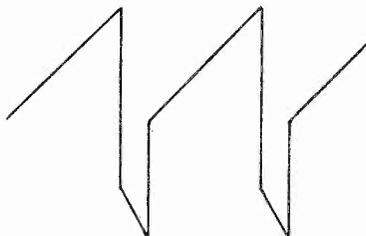

Fig. 6 The voltage wave form required to produce a sawtooth current in a deflection coil.
**Fig. 6 Distortion of the wave form which results from an improperly balanced phase inverter circuit. The positive peak is of higher amplitude than the negative peak. This condition results in harmonic distortion.**
Second, there is the matter of balance. Aging of resistors can, of course, seriously affect the balance of the two voltages on the grids of the output stages. Even if all other things in the circuit are working perfectly, this factor will produce distortion in the output. Fig. 6 shows the type of wave form which results from unbalance of the phase inverter circuit. One peak of the wave (A) has a higher value of voltage than the other peak (B). Thus harmonics, or voltages having twice, three times, etc., the fundamental frequency are produced in the output. The result is speech or music which has that "marbles in the mouth" or fuzzy or scratchy sound which is so often the cause of dismay on the part of the customer.
It was previously shown that the voltage waveform in Fig. 6 was necessary to generate a saw-tooth current in the vertical deflecting coil. In the horizontal system, however, only a saw-tooth voltage need be injected into the grid of the power amplifier. This is because the inductive reactance of the horizontal deflecting coils, which is reflected into the plate circuit of the power amplifier, is small compared to the plate resistance of the 6L6 (the power amplifier used in the circuit of Fig. 2). Thus, for a circuit which is essentially resistive, a saw-tooth voltage can cause a saw-tooth current to flow. This is the reason
why it is unnecessary to place a resistor in series with the discharge condenser in order to obtain the peaked wave, as was the case with the vertical signal. If, however, a triode with a low plate resistance is used, then the peaked wave of Fig. 6 is required. In comparison to the usual inductance of 2 to 8 mh for horizontal coils, the vertical coils have an inductance of about 30 to 60 mh.